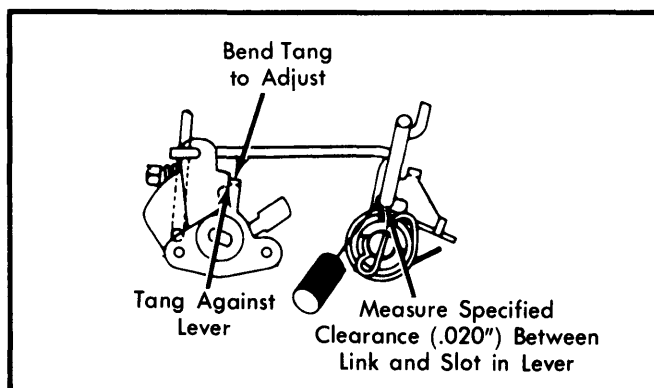

Fig. 13 Adjusting Secondary Throttle Closing Linkage
- 1) Engine idle speed must be correctly adjusted. Hold choke valve wide open and make sure fast idle cam follower is off fast idle cam steps. See Fig. 13.